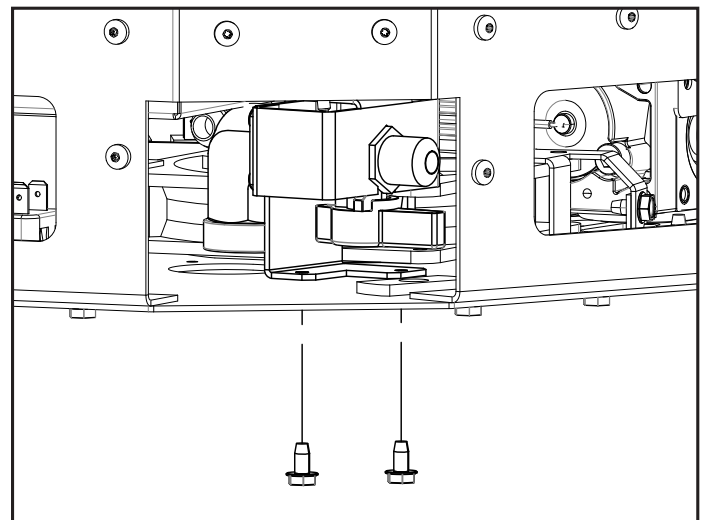

Figure 92: Gas Connection Re-installation
5. Work the flex line and get the gas connection assembly into position as shown in Figure 92. Attach the assembly to the firebox using two (2) 5/16" hex head bolts from below.